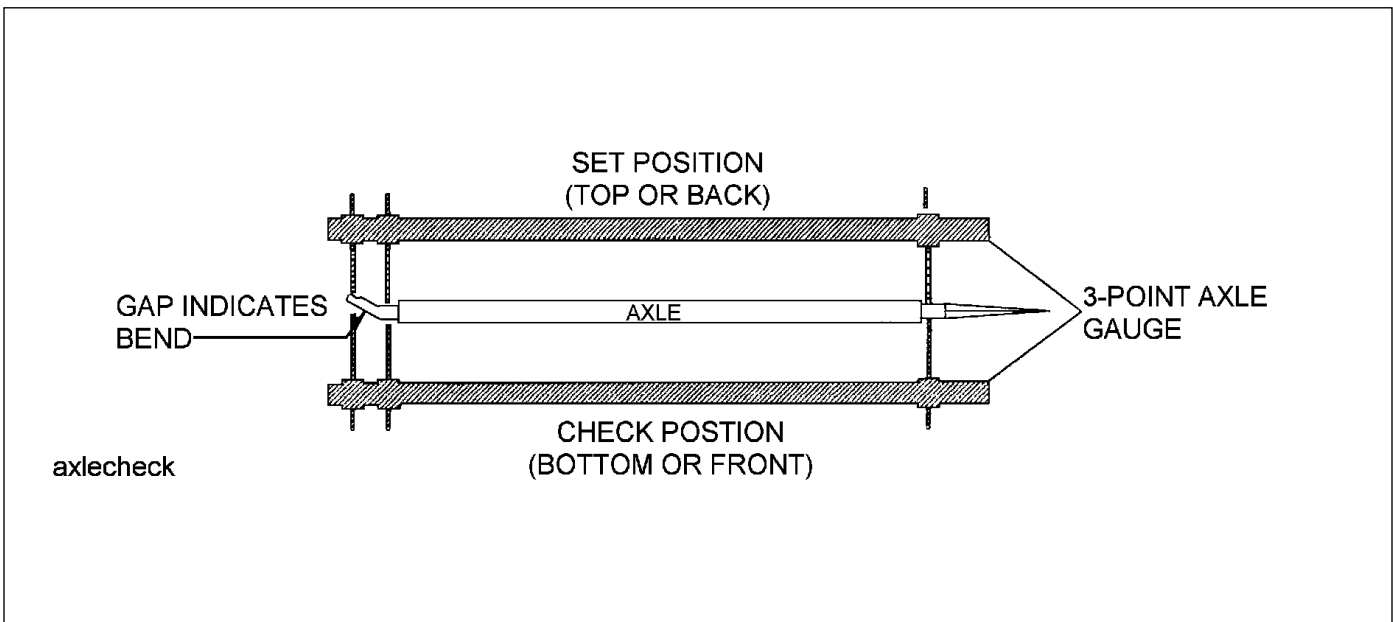

Figure 4-8: Checking Axle for Bend
2. Place a 3-point axle gauge against the front side of the axle, and adjust each axle gauge point to the axle. (Double point end against the inner and outer wheel bearing surfaces of the spindle being checked and the other point on the inner bearing surface on the other spindle.)(See Figure 4-8.)